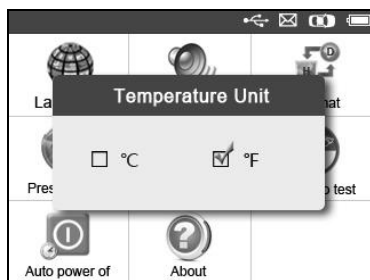

Figure 2.7
- 2) From **Temperature Unit** screen, use the **LEFT/RIGHT** scroll button to select the desired unit of temperature.(Figure 2.7)